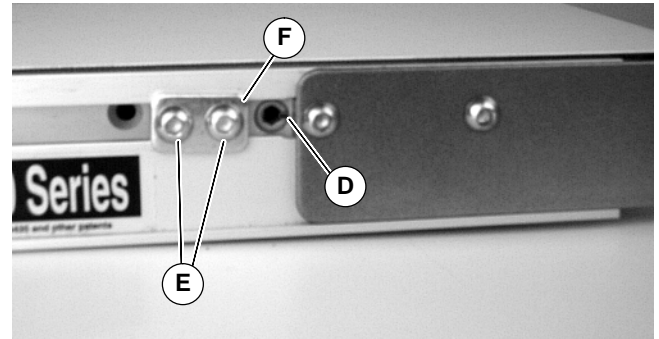

Figure 2
2a. Loosen two (2) screws (E of Figure 2).